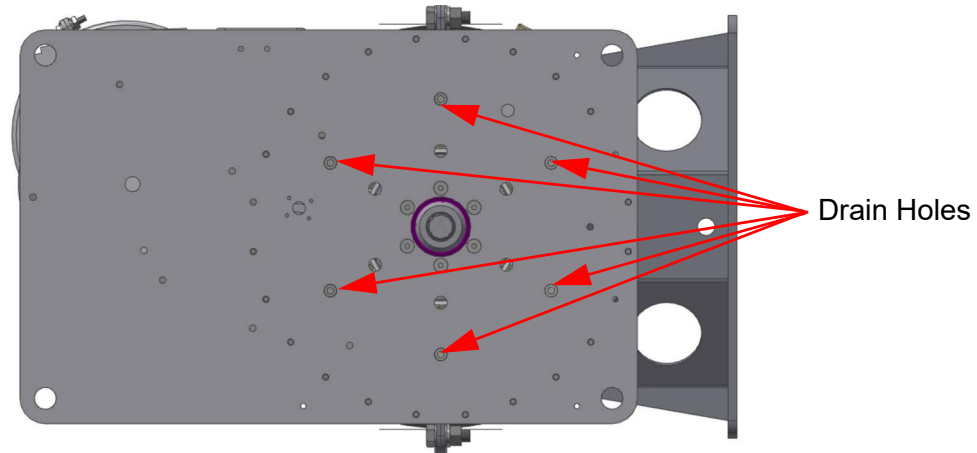

Figure 5-4 Drain Hole Locations
- Do not obstruct the drain holes (for rainwater and condensation) located on the bottom of the base plate under the mast base tube (Figure 5-4). Keep any personnel or sensitive equipment away from the drain hole direction. An optional drain plate is available.